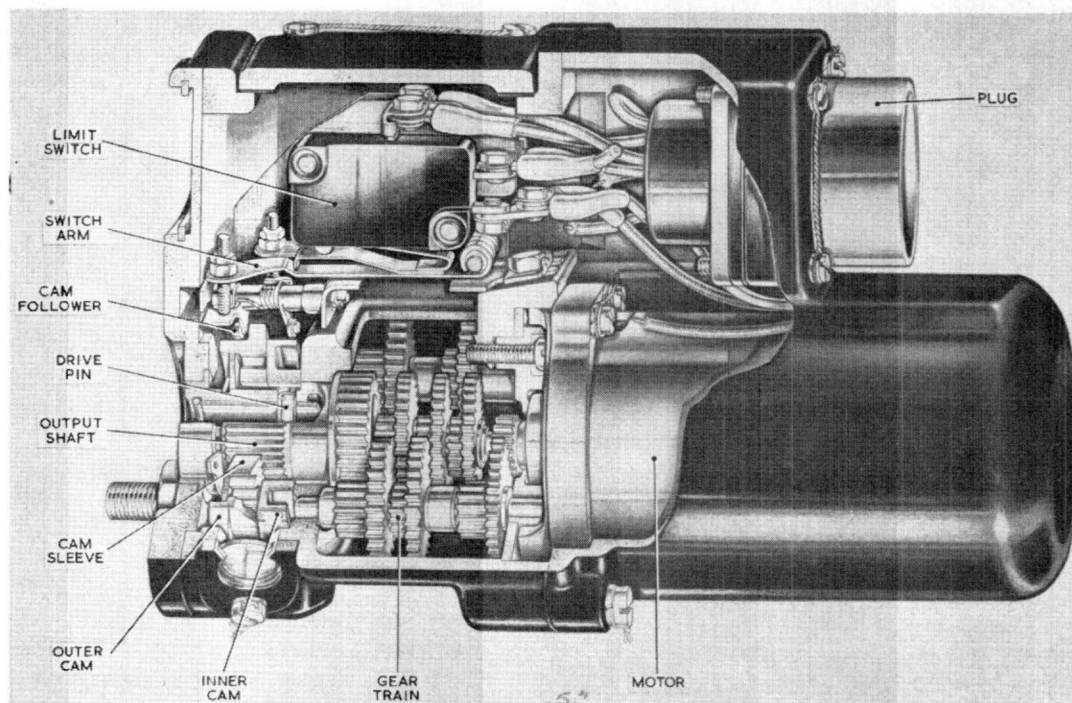
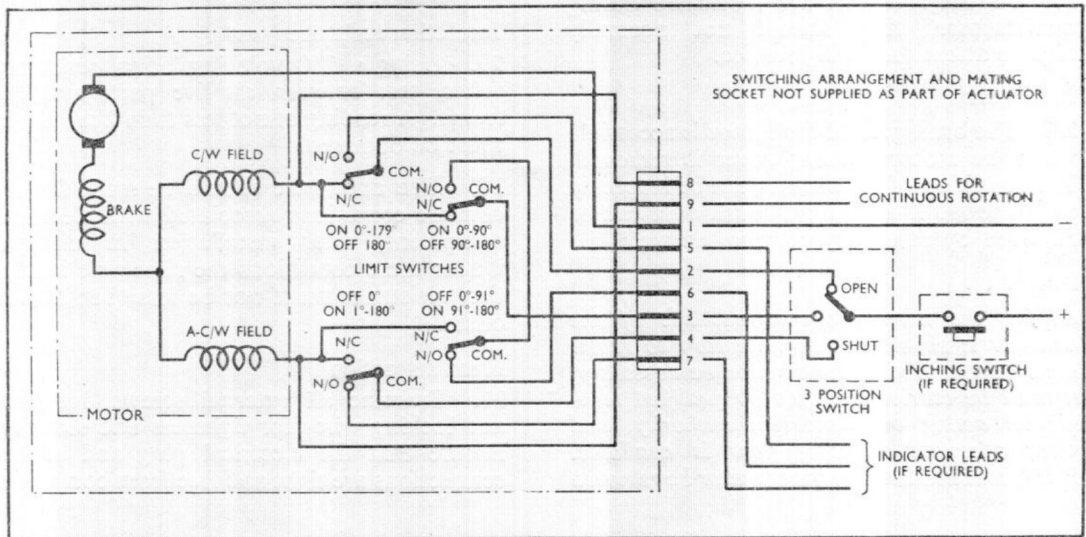

Fig. 2. Sectional view of actuator
Fig. 5. Actuator circuit diagram and external connections
19. The principal components of the actuator can be seen in the sectioned illustration (fig. 2). The actuator circuit and the connections in a typical control circuit are shown in fig. 5. The actuator incorporates a fractional horse-power, split-field, series wound motor, which drives the output shaft through a reduction train of spur gears. The output shaft is fitted with a transverse driving pin, which engages with the slotted drive shaft of the valve or other component being driven. A standard S.B.A.C. serrated sleeve is also provided as an alternative for operating equipment requiring this type of drive. The motor is wound with two field coils, one providing clockwise, and the other counter-clockwise, rotation. The actuator travel is controlled by limit switches, connected in the field circuits, which are operated by cams mounted on the output shaft.
21. The operation of the limit switches, in conjunction with a typical control circuit, can be seen in fig. 5. Note that fig. 5 describes the basic (0°, 90°, 180°) actuator. The diagram has been drawn to represent the actuator in the 0° position (the datum position, termed SHUT) but with the external control switch moved to OPEN as shown. When the switch in the external